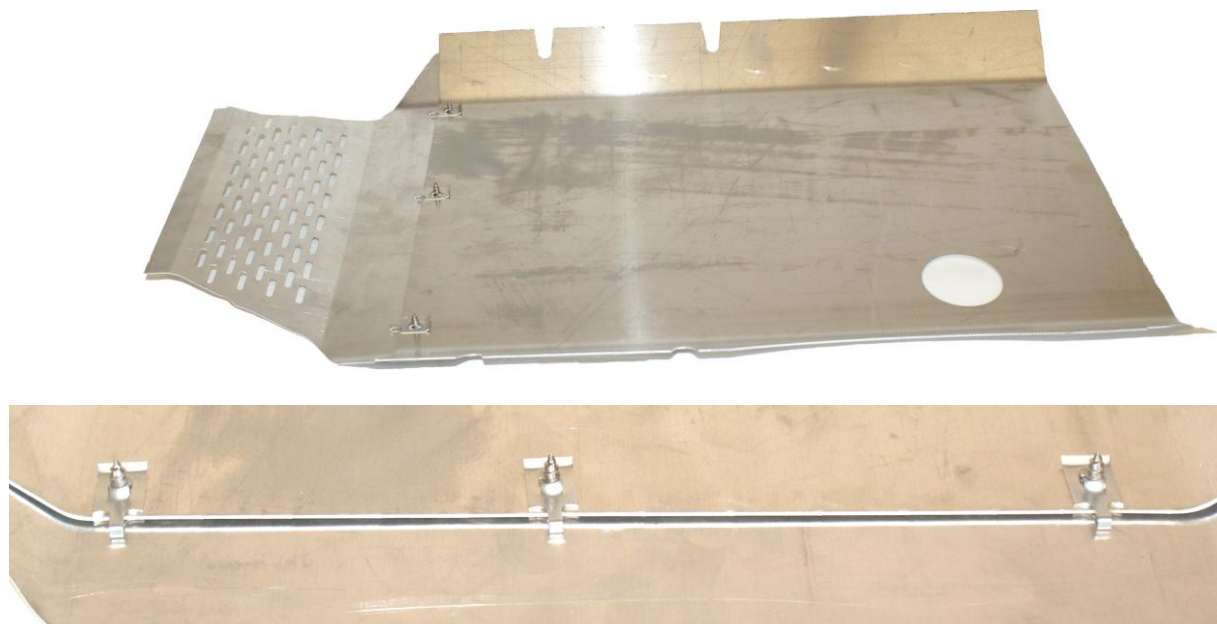

Figure 1
4. Attach the vented front section to the main plate using the three stainless screws provided as shown in figure 1.